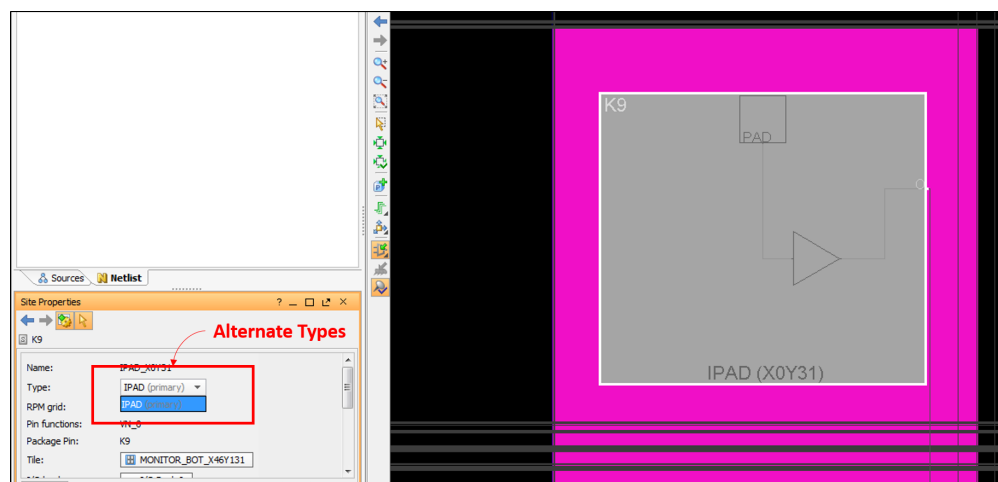

Figure 27: Alternate types of an IPAD site (highlighted in red)
- (a) The first hand edit is to remove invalid alternate types. For IPAD sites, Vivado’s Tcl interface reports two alternate site types: IOB18M and IOB18S. These site types are not actually valid alternate types, meaning they need to be removed. Figure 27 demonstrates the actual alternate types of an IPAD as shown in the Vivado GUI.